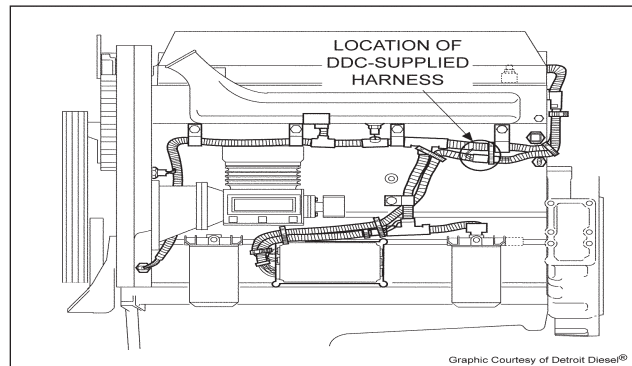

Fig 6
- c. Disconnect 10 pin wire socket located on intake side of cylinder block below number six (6) intake port. (See Fig. 6)